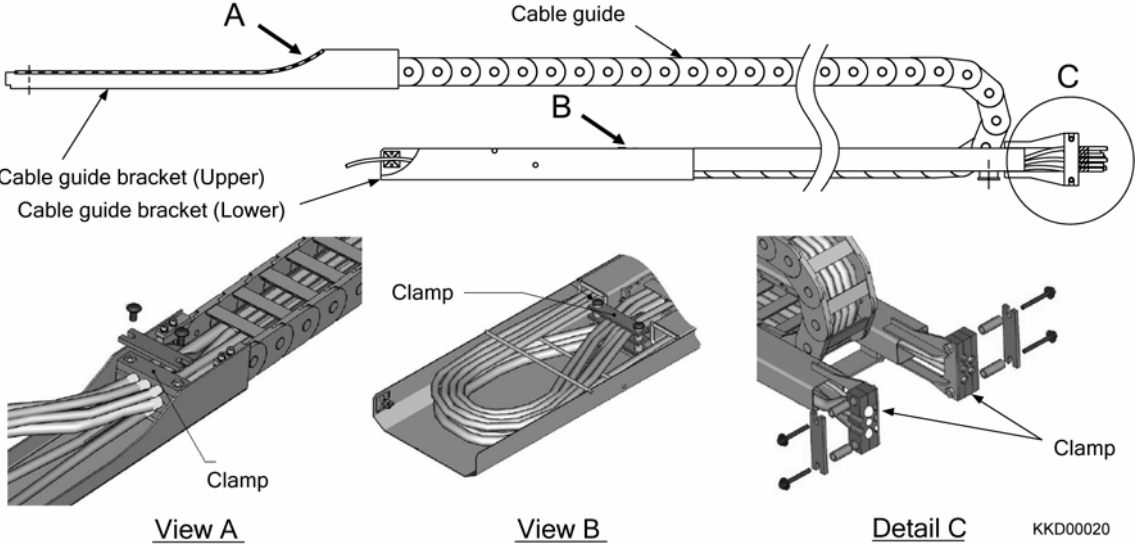

Fig. 2-49
24) Remove clamps, and then pull out the cables and hoses from the cable guide bracket (Lower). (Fig. 2-49)